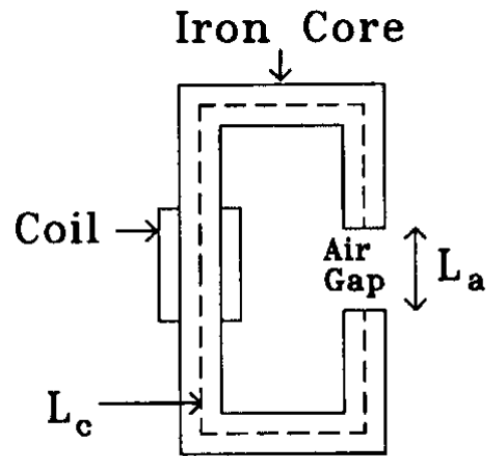

Figure 1
- (d) The magnetic circuit of Figure 1 has a core made of M19 steel, with a cross-sectional area of 1 cm². $L_c = 30$ cm and $L_a = 0.5$ cm. The coil has $N = 800$ turns and carries a current $I = 10$ A. Derive a (nonlinear) equation for the flux ψ in the core, of the form $f(\psi) = 0$.